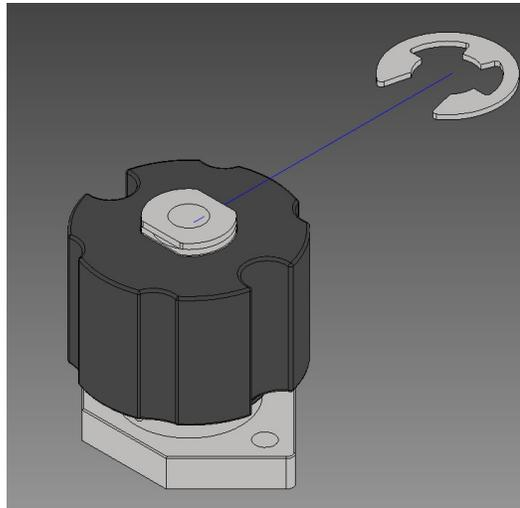

FIGURE F. 9. - E-CLIP REMOVAL
9. OPTIONAL – If operator disassembly is required, start by removing the E-Clip from the top (see Figure F.9.). This usually is only required for additional cleaning or PTFE washer replacement.